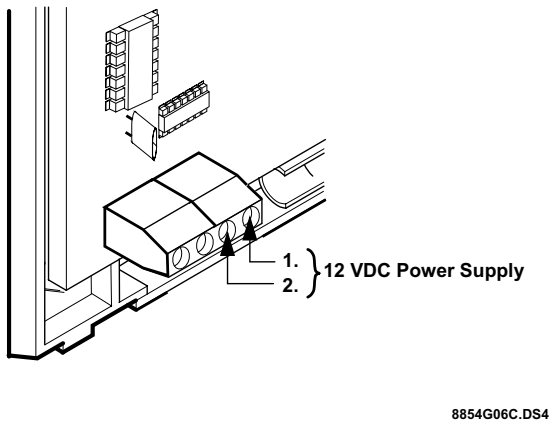

Figure 4. Connecting 12 VDC Power Supply
- 3) Standard 12 VDC supply that provides at least 50 mA (see Figure 4).